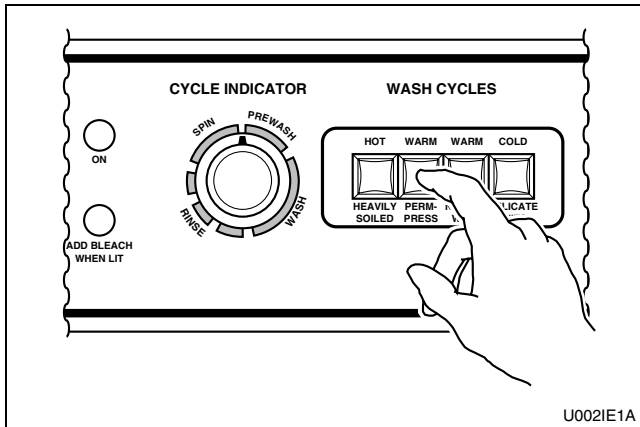

Figure 20
5. Select wash cycle. Refer to *Figure 20*.